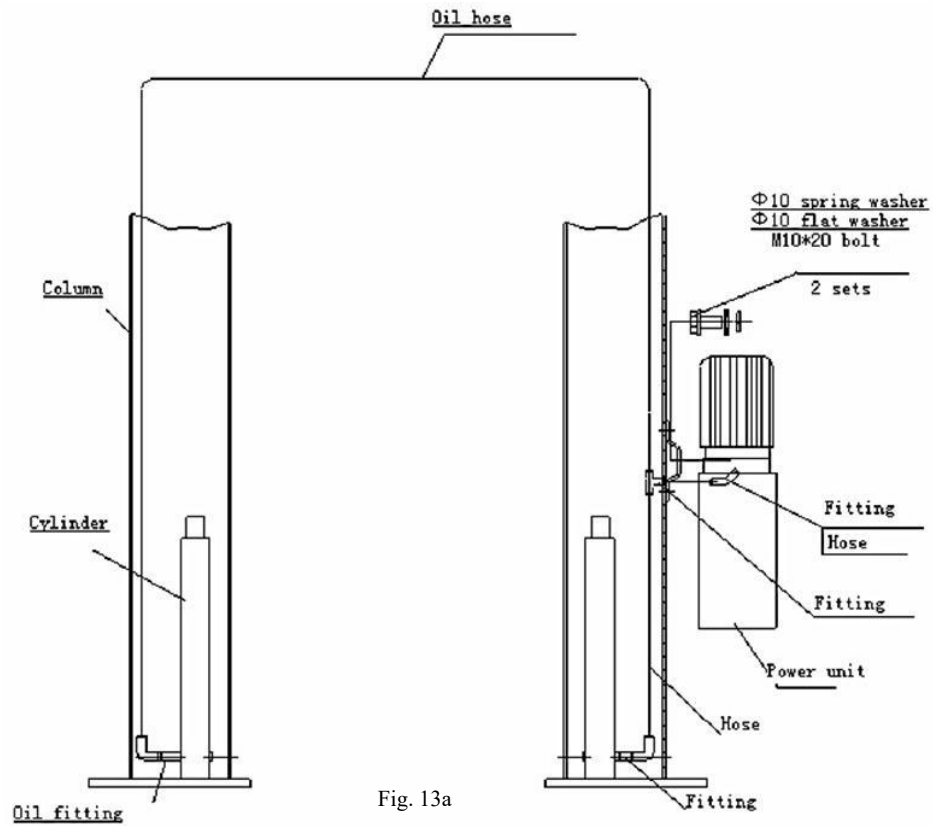
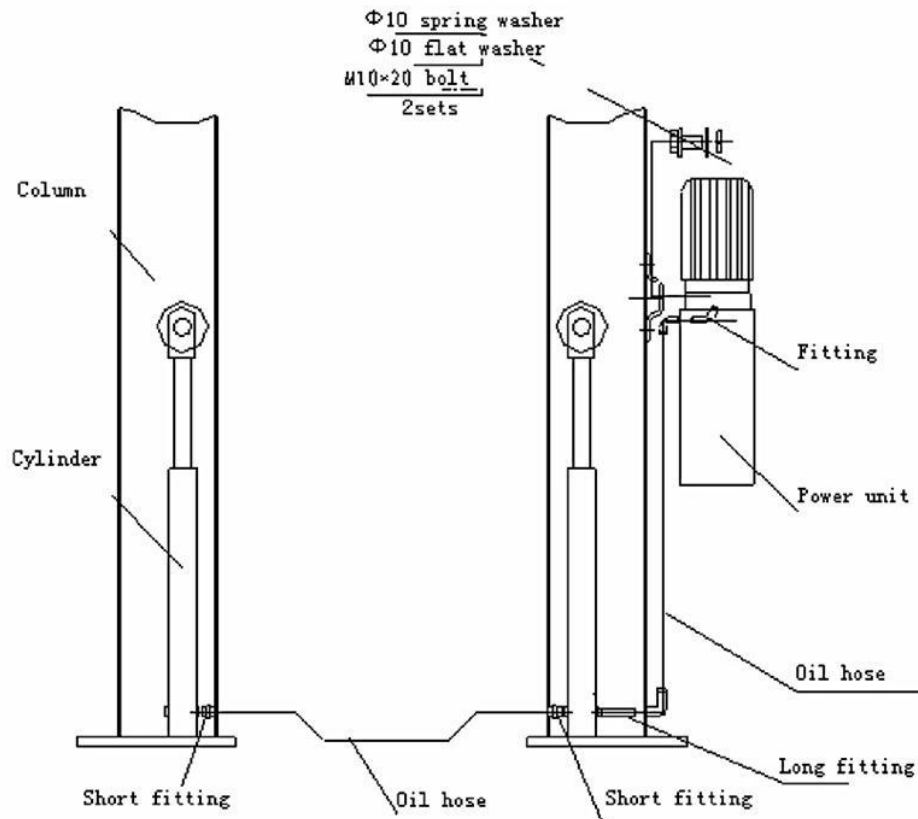

Fig. 13a
Fig. 13b
- Use two M10 Bolt s and washers to fix the power unit (as shown in Fig. 13a、 13b). for L1100 models, install the hydraulic line as shown in Fig. 13a , for L1000 models, , install the hydraulic line as shown in Fig. 13b and tighten all the fittings top revent oil leakage.